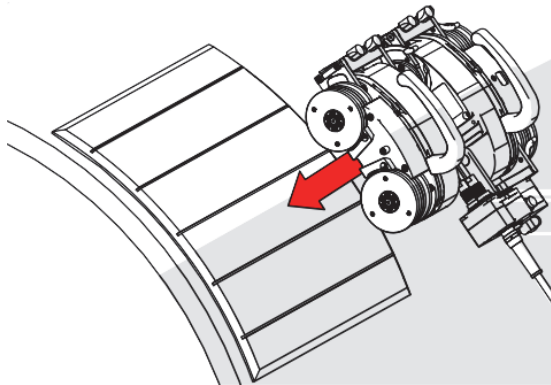

Figure 4-10 Lower the SteerROVER to the mat
6. Place and hold the SteerROVER scanner on the installation/removal mat (see Figure 4-10 on page 174).